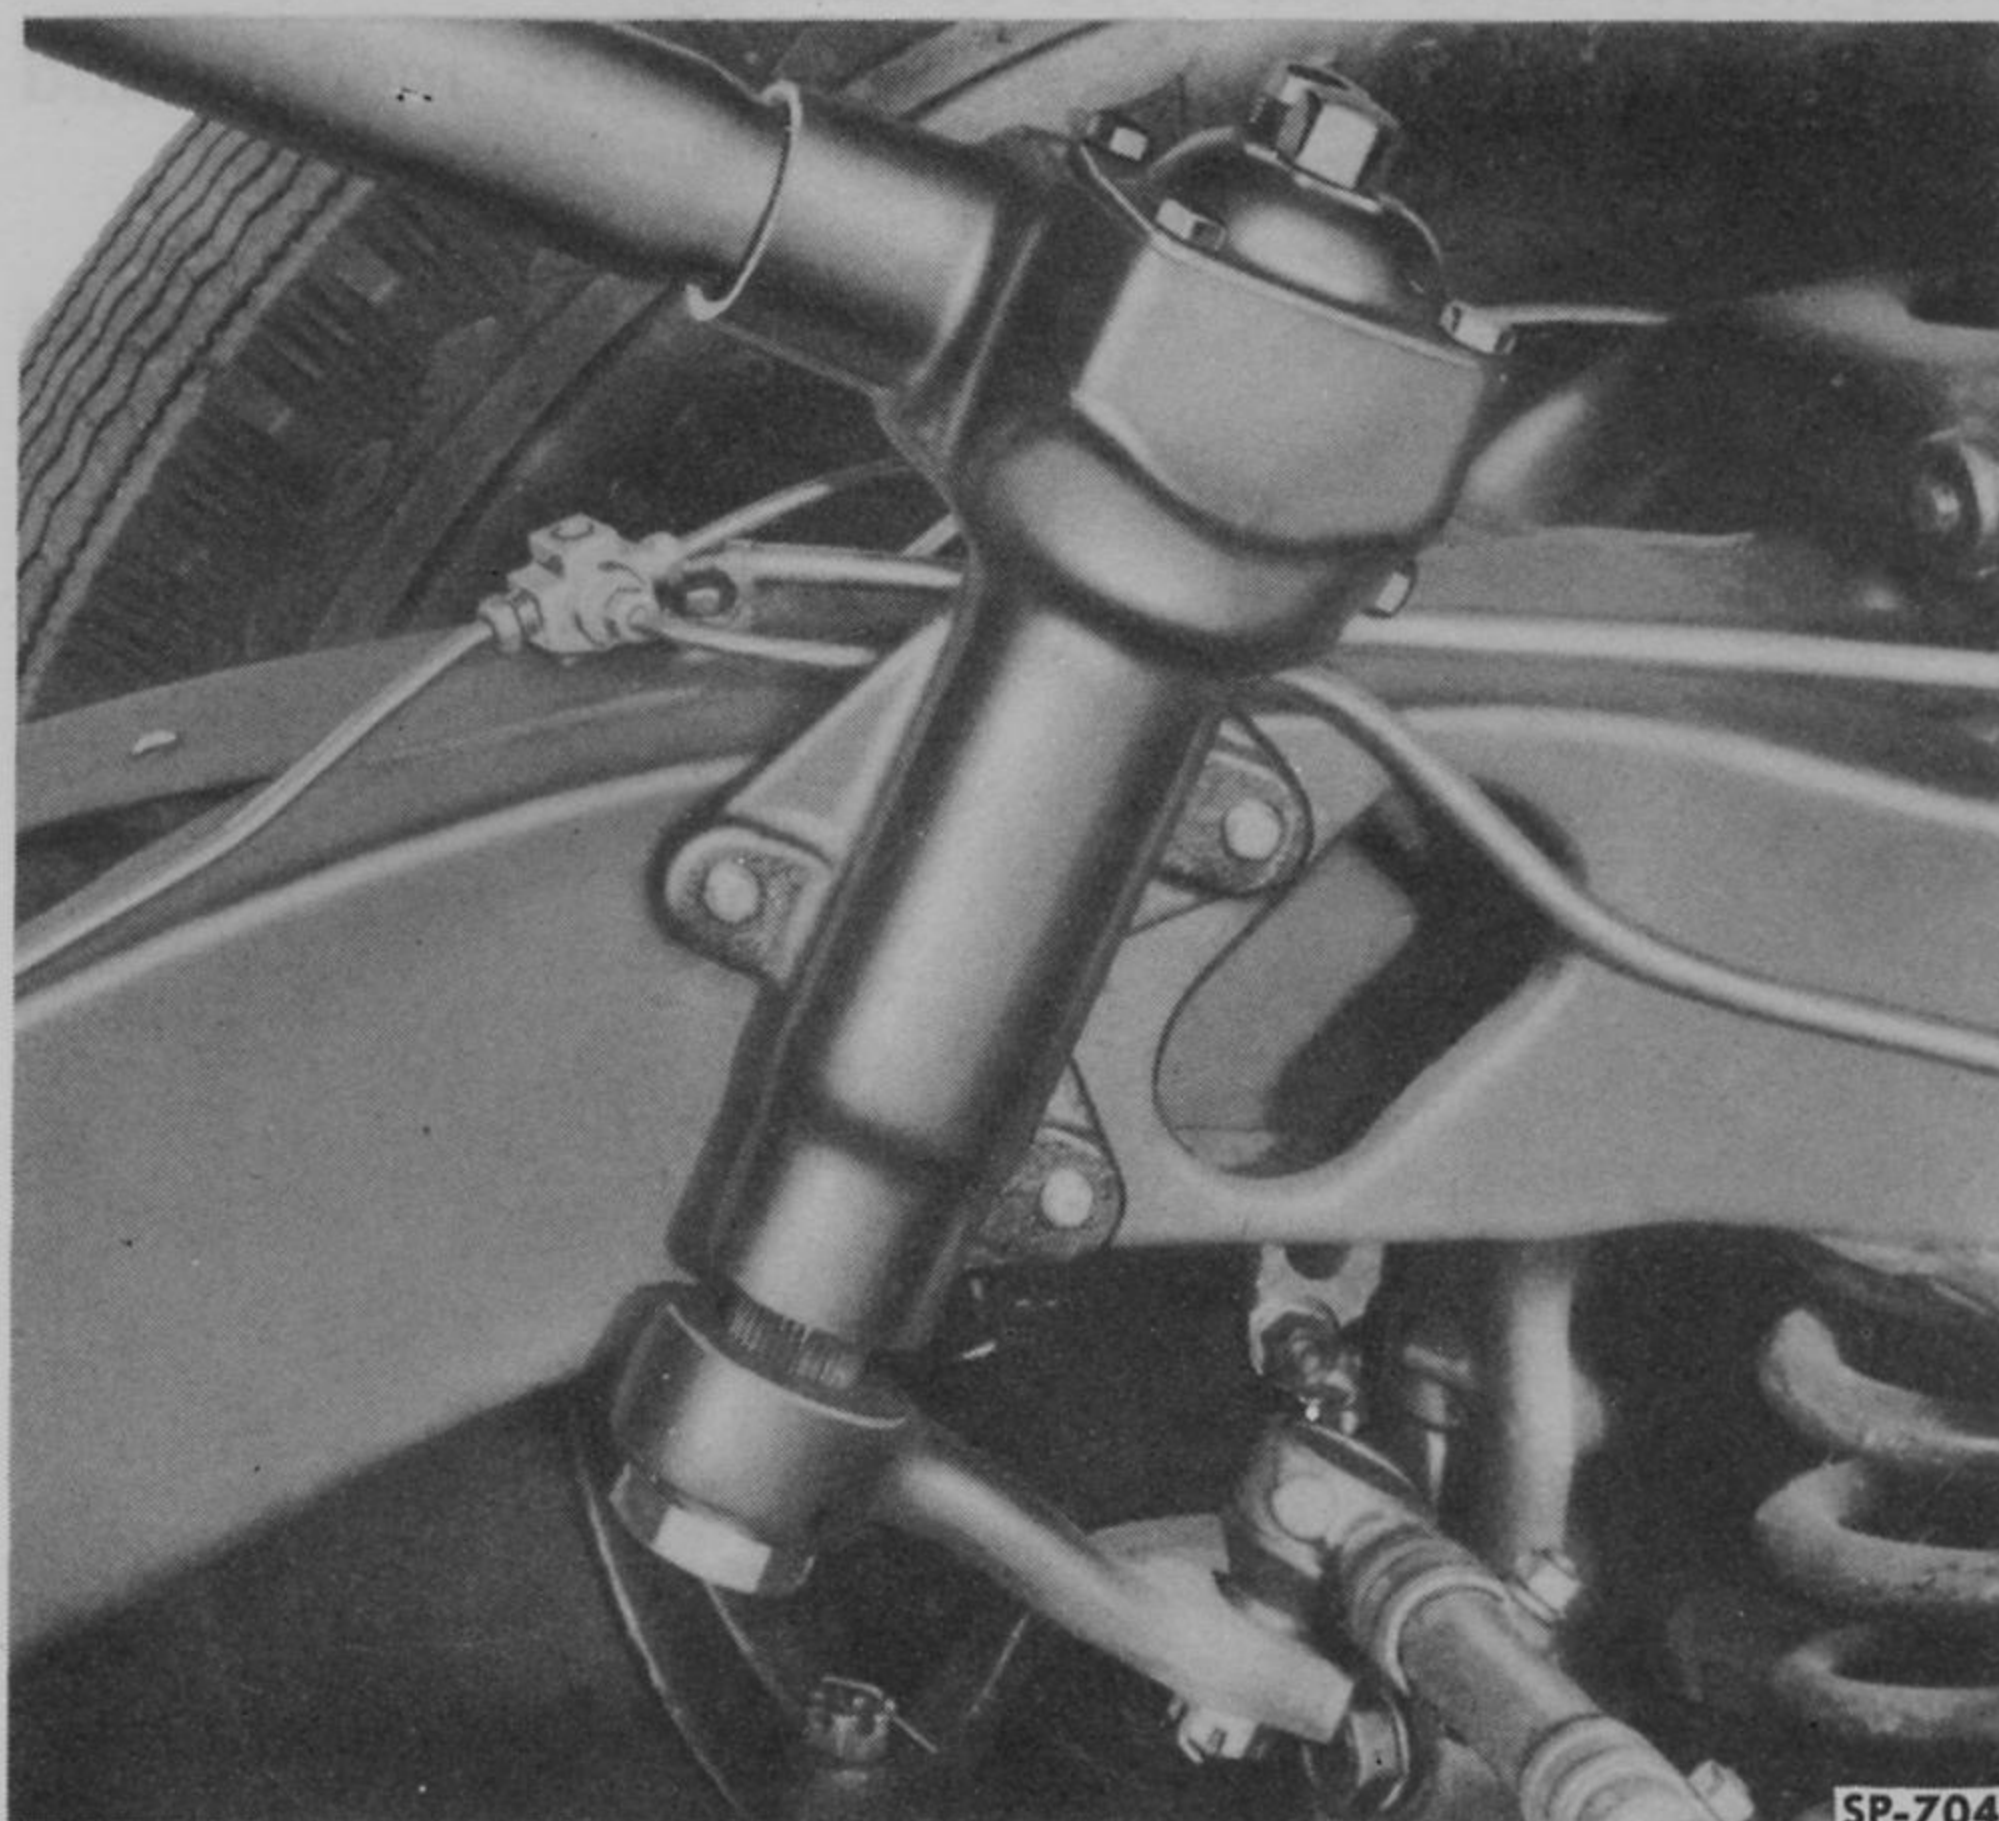

Fig. 277—Steering Gear Mounting—Kaiser
a. STEERING GEAR AND MOUNTING. The worm and roller type steering gear is mounted on the frame left side rail (Fig. 277), and is supported at the lower edge of the instrument panel. A tubular jacket, which extends from the steering gear housing to the steering wheel and incloses the steering column, provides a mounting for the gearshift mechanism.